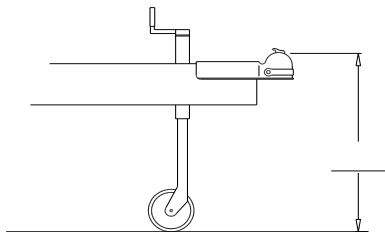

Fig. 1
2. Level the trailer and measure and record the distance from the ground to the top of the ball socket (dimension Fig. 1).